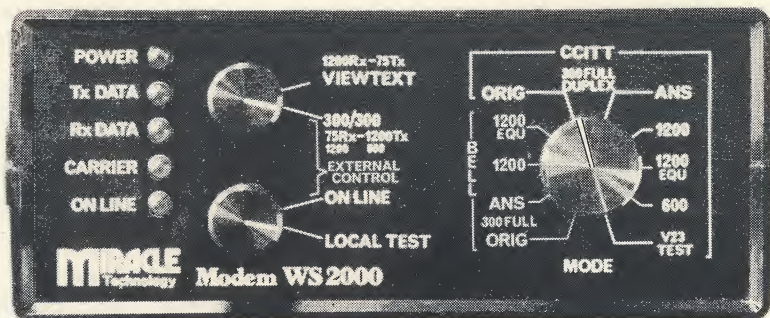

Figure 4
4.1 Bulletin Boards are normally accessed at 300 baud full duplex, though some are now using 1200/75 baud as in Viewtext. For 300 baud access set the front panel switches to the positions shown in Figure 4 below.